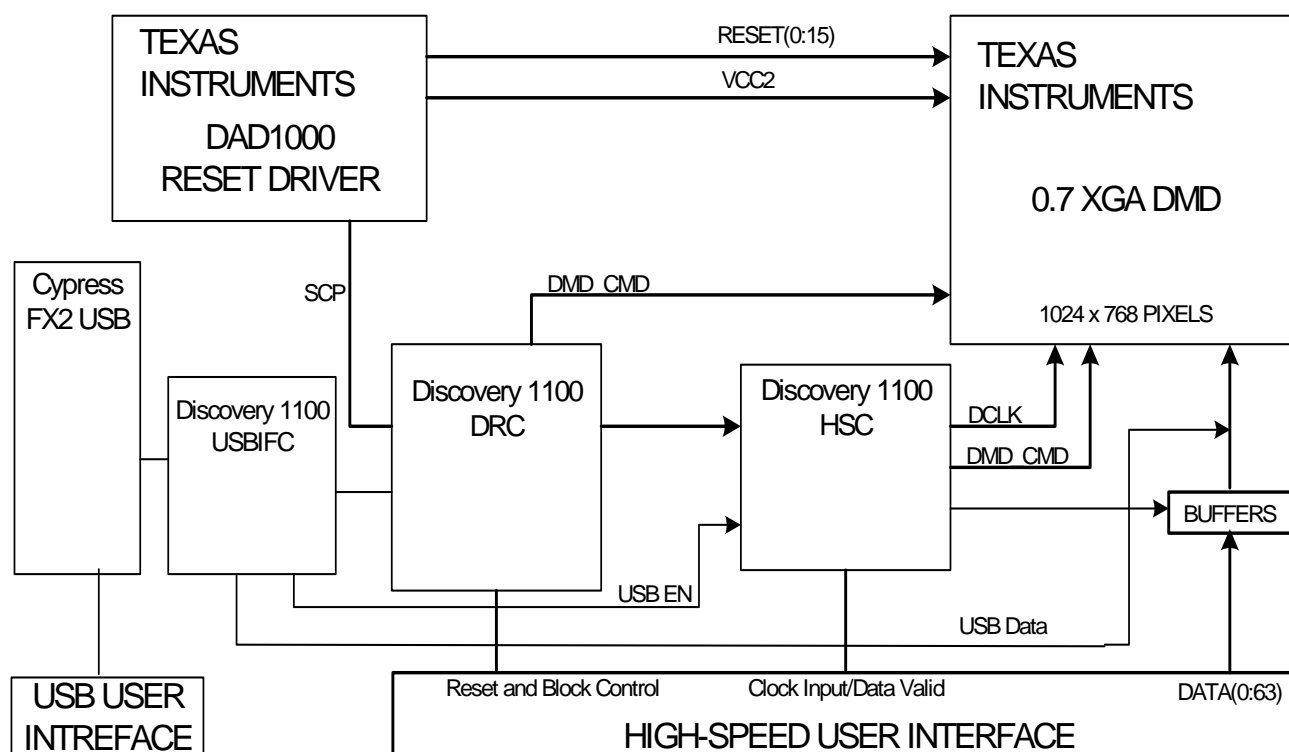
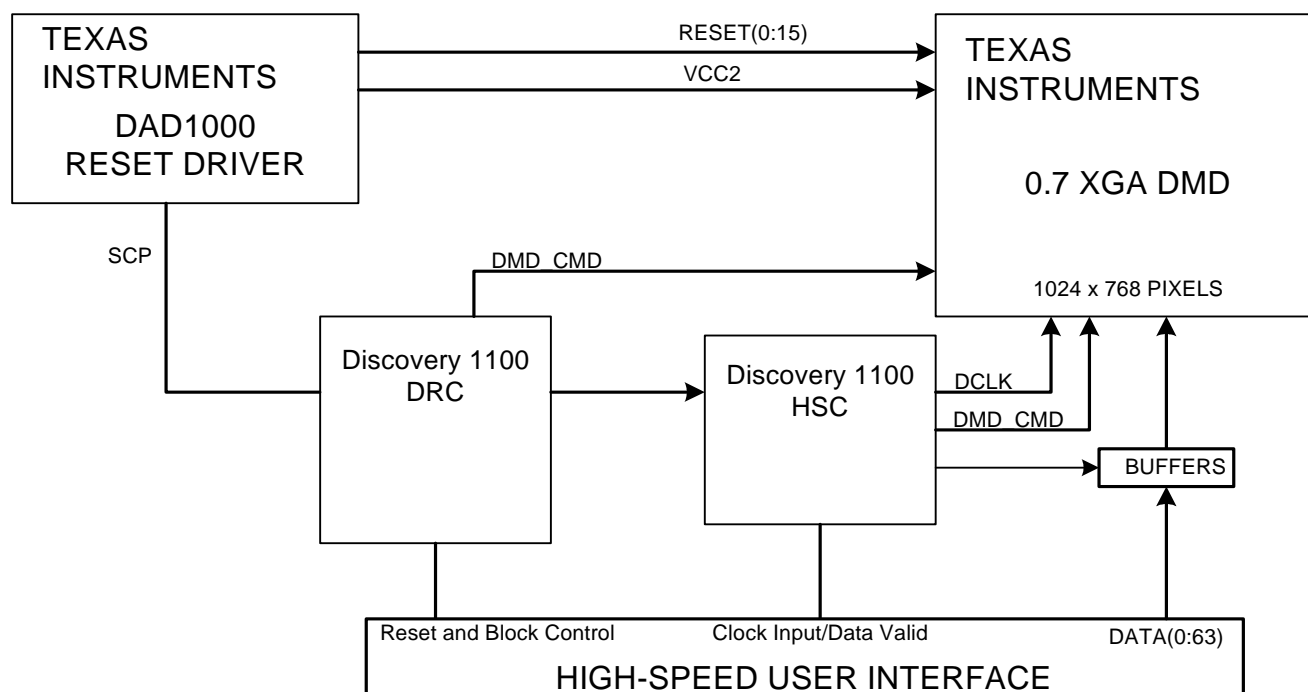

Figure 1 Discovery Block Diagram with USB
Figure 2 Discovery Block Diagram without USB
Shown below are two simplified block diagrams (Figure 1, Figure 2) showing the use of the DRC with and without the use of the USB interface.
The block diagram in Figure 1 is a typical system using both high-speed (HS) and USB interfaces. The end-user may control the DMD from either the USB or HS interface. When the USB Interface Controller is used, DMD mirror resets are initiated through the USB interface and passed to the DRC through the USB support components. The DRC provides the reset logic required for the DAD1000 to drive the DMD mirror reset inputs.
The second block diagram shown in Figure 2 shows a typical system with high-speed only interface. In this system, the DMD mirror reset commands are initiated and passed directly to the DRC through the High-Speed interface.